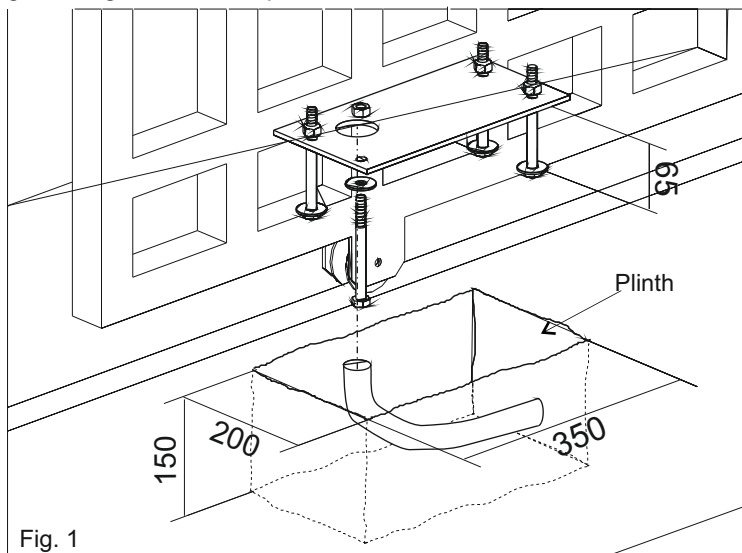

Fig. 1
**2.1.** Have a mounting plate manufactured to the dimensions shown in Fig. 1. The plate will require to have concrete holding into which the foundation plate and the anchor bolts will be walled up.